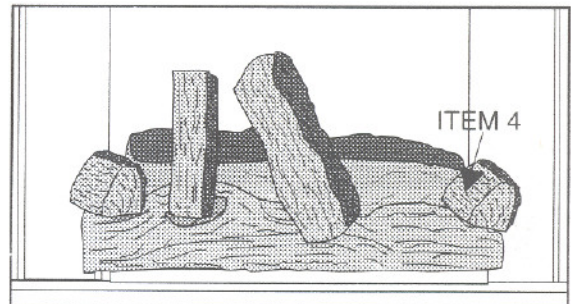

Figure 48
7. See Figure 48. The third small straight log (Item 4) is installed next. Position this log with the "bark" to the right. Place one end of the log in the indentation on the far right of the Front Log. The opposite end will lay on the back log support, right of the Back Log.